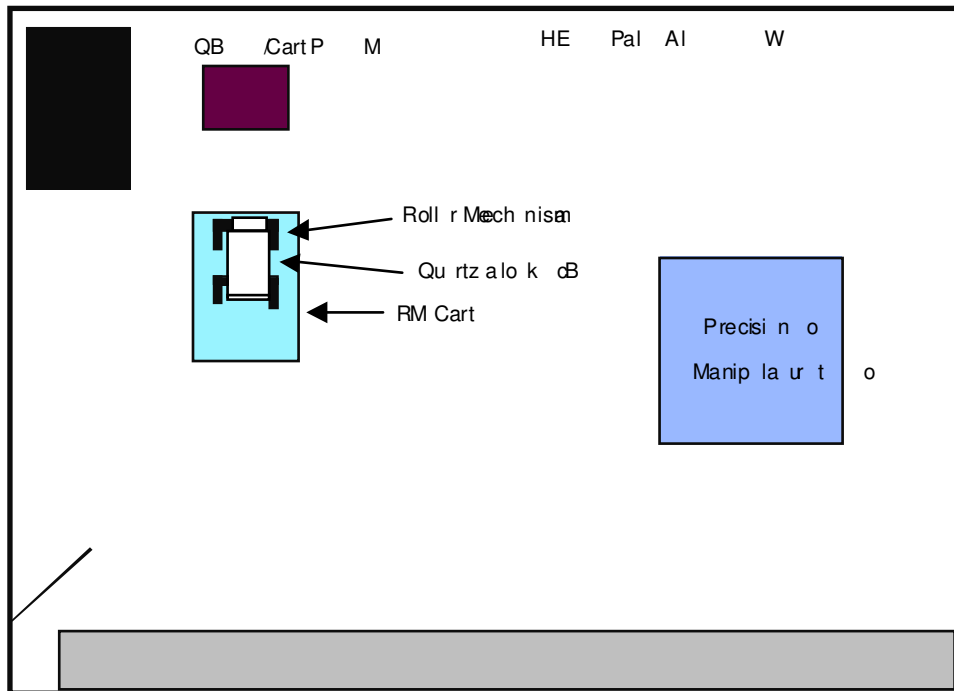

Figure 1. Class 10 Room Layout at Start of Procedure
- 5.1.1 Clear the work area such that the room layout is approximately as shown in Figure 1 below. There should be sufficient room for a person to be on each side, in front, and in back of the Roller Mechanism Cart.